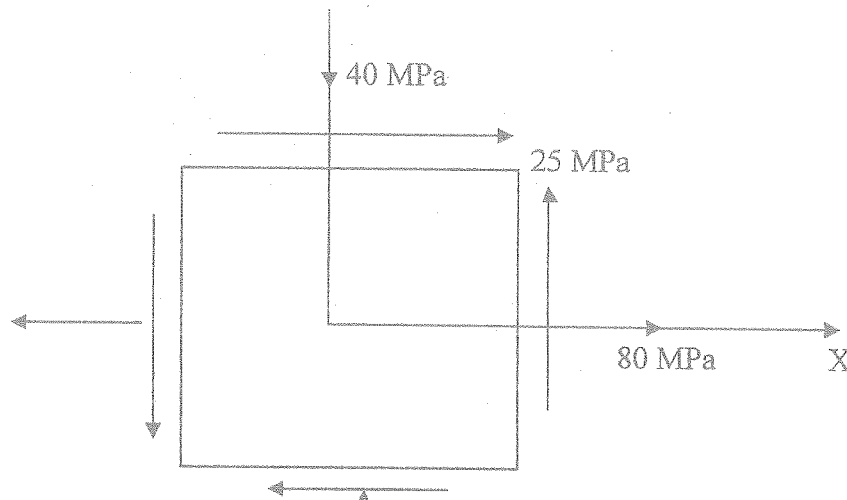

Figure Q4
- Q4. a) For the state of plane stress as shown in the Figure Q4, determine the followings using the transformation equations. [2.0 Marks]